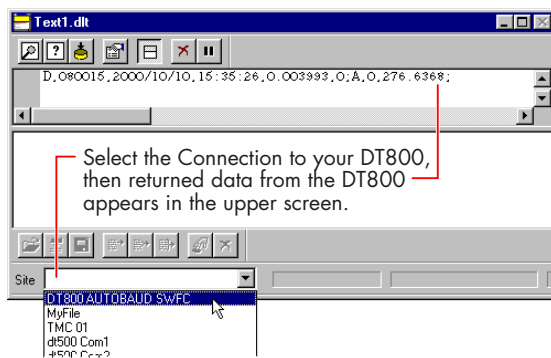

FIGURE 62 Assigning the DT800's Connection to the text window
- In the **Site** drop-down list at the bottom of the text window, select your DT800's Connection (Figure 62).